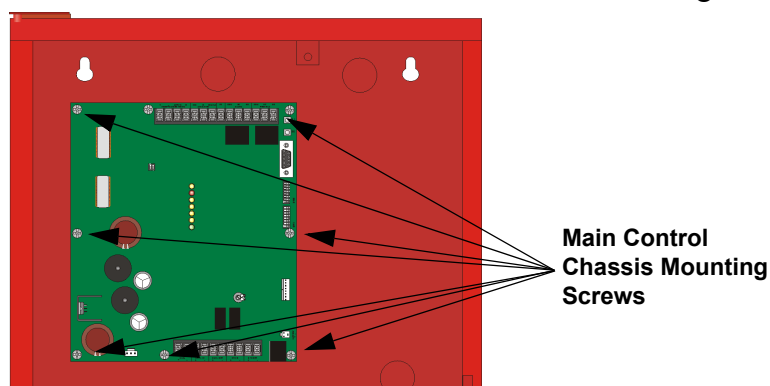

Figure 3-7 Main Control Board Mounting Location
4. Mount the main control board into the cabinet as shown in Figure 3-7.